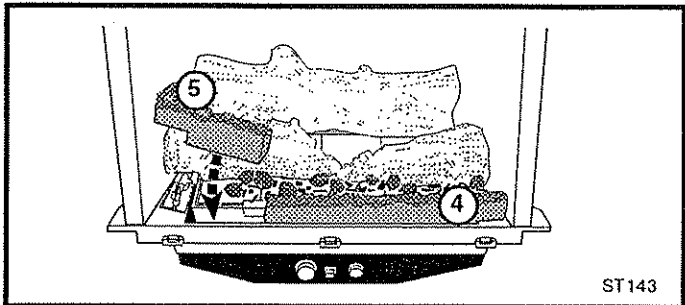

Fig. 15. Install the Front Logs. Loosely spread the Lava Rocks between the front and middle logs.
6. Place the two Front Ember Log sections (4, 5) in the slot at the front of the firebox as indicated in Fig. 15.
7. Loosely sprinkle the Lava Rocks directly on top of the burner plate in between the front logs and middle logs. *Do not place any ember material behind the middle logs. Do not layer the lava rocks on top of each other.* (Fig. 15)
8. Engage the Upper Log (6) with the anchor knob on the Rear Log and adjust its position so that the right branch is $6\frac{3}{4}$ " away from the end of the lower right log.